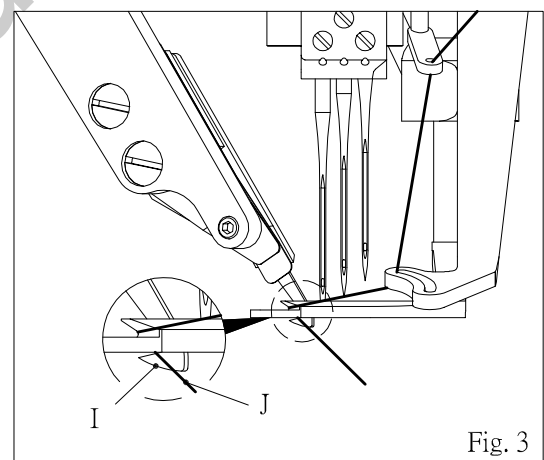

Fig. 3
There should have 0.5mm tolerance when hook blade (H) passing thru the center of leftest needle (N) to its lowest position, this tolerance can be obtained by adjusting screw (L) and also can be micro-adjusted by screw (M) and after finished the adjustments, need to double check step (3) and step (5). (Please refer to figure 3.)